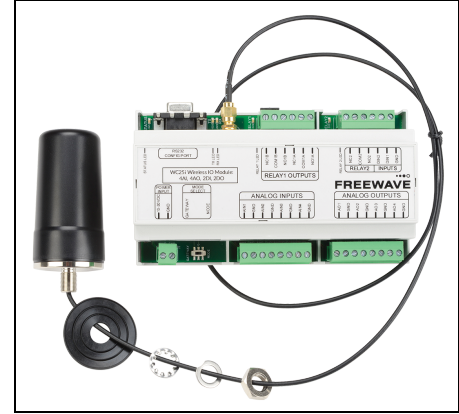

Figure 1: WC25i Connection
- Connect the enclosed Antenna with gasket and connecting washers to the WC25i (Figure 1).